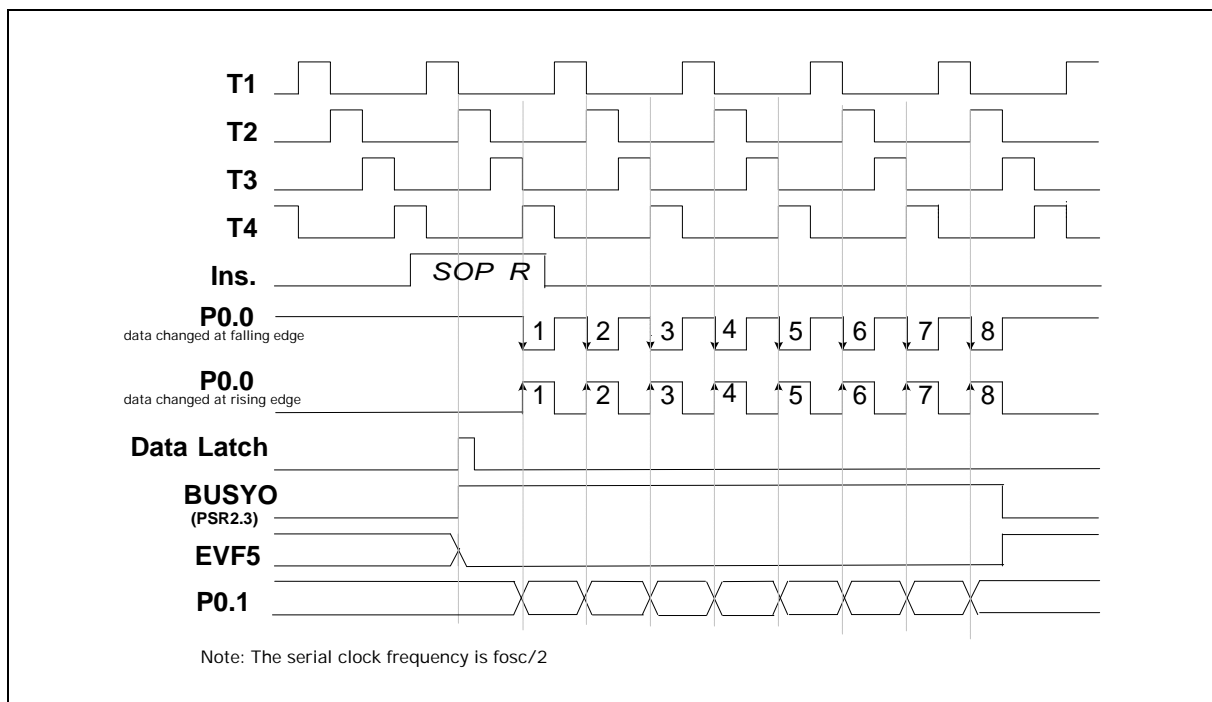

Figure 5-13 Timing of the Serial Output Function (SOP R)
- (2) When the **SOP R** instruction is executed, the data will be loaded to the serial output buffer (SOB) from ACC and the RAM, the low nibble data of SOB is from ACC register and the high nibble data is from RAM, and bit 3 of port status register 2(PSR2) will be set to "1" (BUSY_O = 1). Then the P0.0 pin will send out 8 clocks or accept 8 clocks from external device and the data in SOB will be sent out at the rising or falling edge of the P0.1 pin. After the 8 clocks have been sent, BUSY_O will be reset to "0" and EVF.5 will be set to "1." At this time, if IEF.5 has been set (IEF.5 = 1), an interrupt is executed; if HEF.5 has been set (HEF.5 = 1), the hold state is terminated. Users can check the status of PSR2.3 (BUSY_O) to know whether the serial output process is completed or not. If a serial output process is not completed, but the SOP R instruction is executed again, the data will be lost. The timing is shown in Figure 5-13.